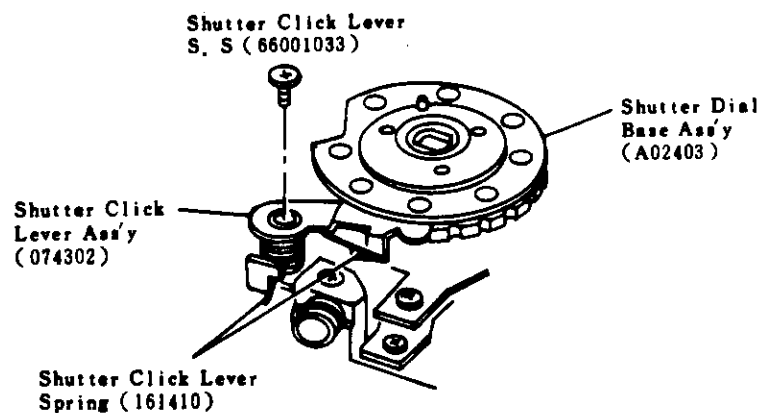

Fig 42
(3) Reassembling of Main Switch and M-P Switch.
- Set Shutter Dial Base Ass'y in OFF position as shown in (Fig 42).